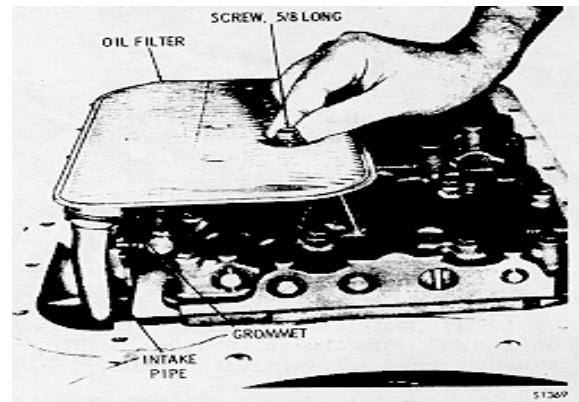

Fig. 7-32. Installing oil filter screw
(3) Install the oil filter onto the intake pipe, making sure the grommet in the filter fits the intake pipe snugly (Fig. 7-32).